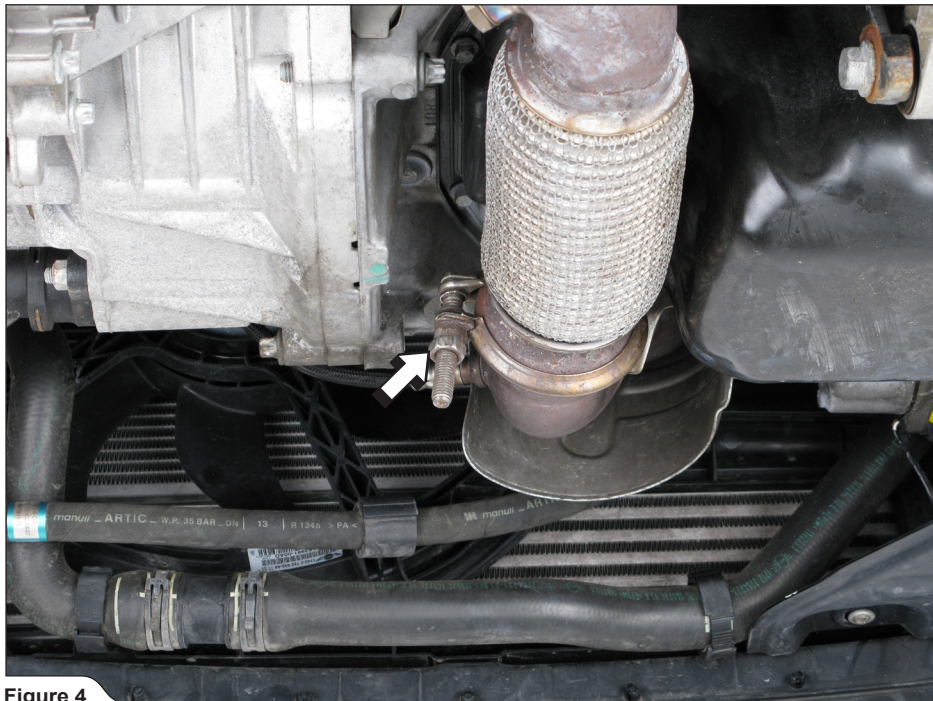

Figure 4
4. **For Evolution and Optional Down-Pipe:** unscrew the nut of the original clamp, remove the bolt, widen the clamp (using two large screwdrivers) and remove it out of the way, as shown (**Figure 4, 5**).